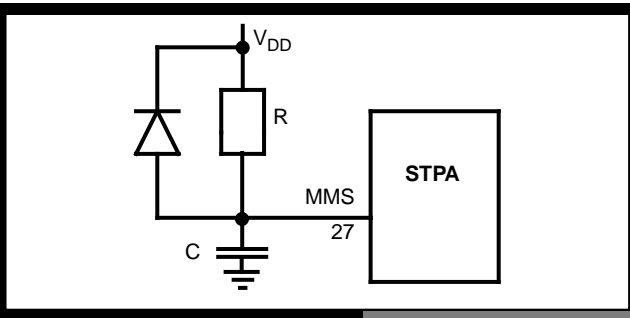

Figure 8 - MMS Reset Function
The STPA can be RESET in Mode 1 using the MMS pin (27). Applying a low pulse (0V) to MMS after power is applied to the device will reset all control and interrupt registers to 0016. This can be accomplished on power up with a simple R-C circuit as shown in Figure 8.